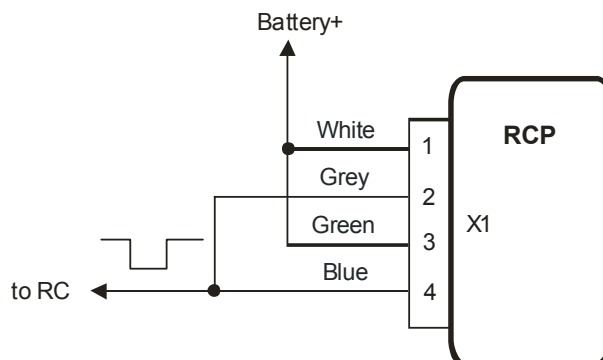

Figure 7
- The remote control with the only one output channel may be connected by the scheme at fig. 7 to add a possibility not only to turn the heater on, but also turn the heater off too. Every one impulse on the output of the remote control receiver unit will move the heater to the opposite state: switch on the idle heater, switch off the operated heater. To realize this mode it is necessary to connect in pairs the inputs Heater\_on+ with Heater\_off+, and the inputs Heater\_on- with Heater\_off-.